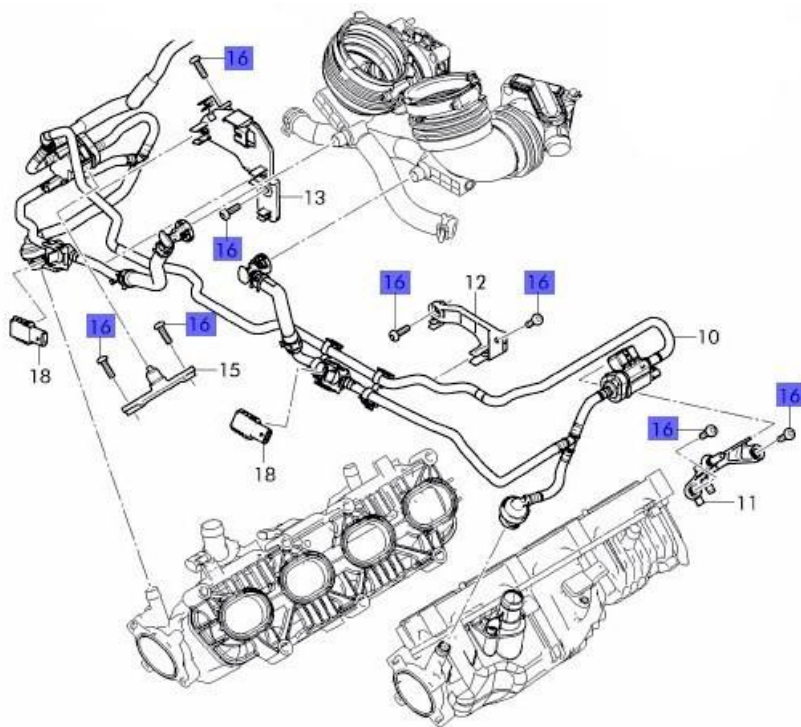

Figure 3
- Fixings for the vacuum system assembly - Figure 3 (Item 16 – Quantity of 8 in total)